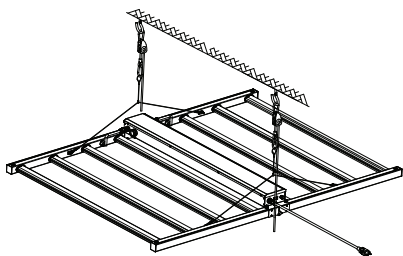

Figure 8
8. Power can be turned on after the installation is complete, then using the manual dimming knob to adjust to the required power. (Figure 8)